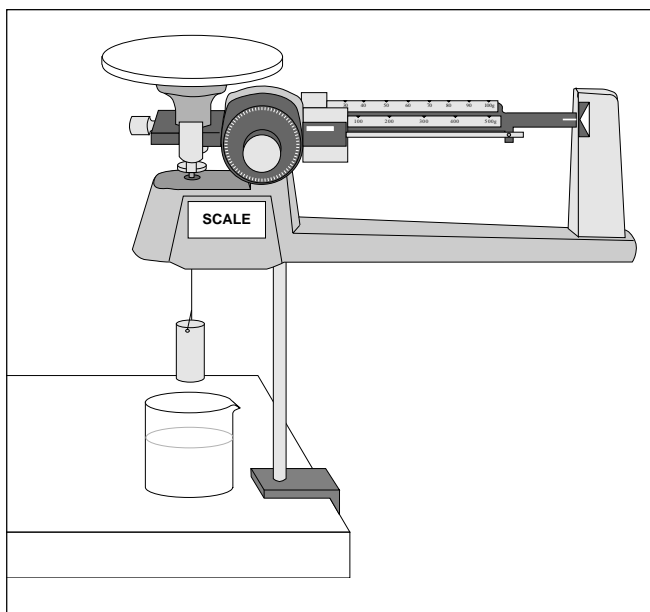

Figure 3: Scale Setup
1. Put the triple-beam balance on top of a stand as shown in Figure 3. Tie a string to the bottom of the pan.